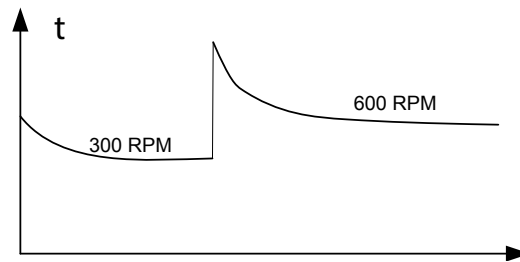

Figure 1-5: Behavior of thixotropic fluids after stillstand (left) and at constant shear rates.
- The fluid displays a reduction in viscosity over time at constant shear rate as indicated in Figure 1-5.